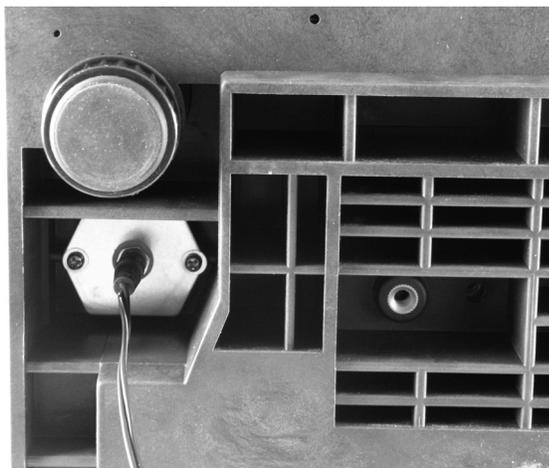

Figure 2-2. AC Plug-in Location on Underside of DC-788
1. Connect the AC power cord under the scale base as shown in Figure 2-2.